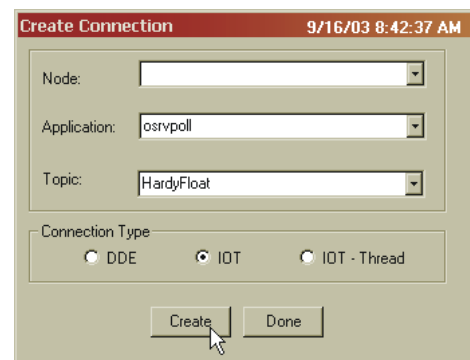
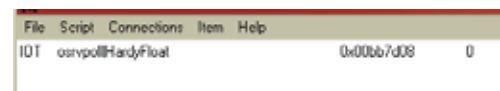

FIG. 233: CREATE CONNECTION DIALOG BOX
FIG. 234: IOT CONNECTION
Step 11. Click on the Create button. (See Fig. 233) In the WWClient page an IOT connection entry appears. (See Fig. 234)